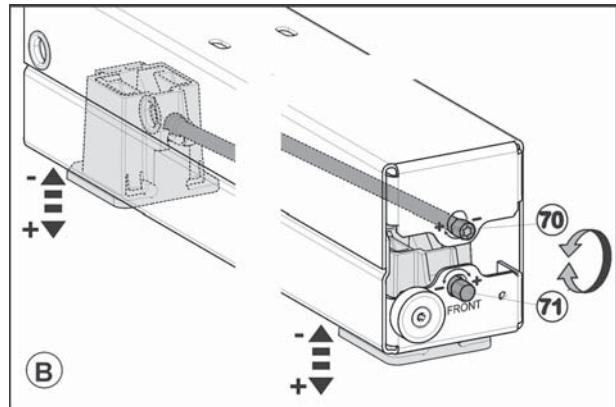

Fig. 45
- Align the height of both appliances evenly using the four roller bases. Use the upper adjustment setting (1/4") Fig. 45 (70) for the rear adjustment foot and the lower adjustment setting (1/4") Fig. 45 (71) for the front adjustment foot. Turn clockwise to raise and counter-clockwise to lower. Maximum adjustable height: 5/8 in (16 mm).